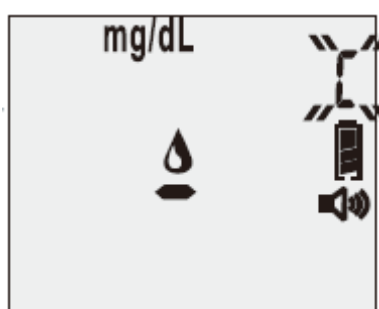

Figure 2-4
2. Press the “R” right function button and you will see a letter “C” in the right-hand corner of the LCD screen to indicate you are in “Control Test” mode. You will then hear: “**Apply control solution now.**” The test result will not be stored in the memory (see Figure 2-4).